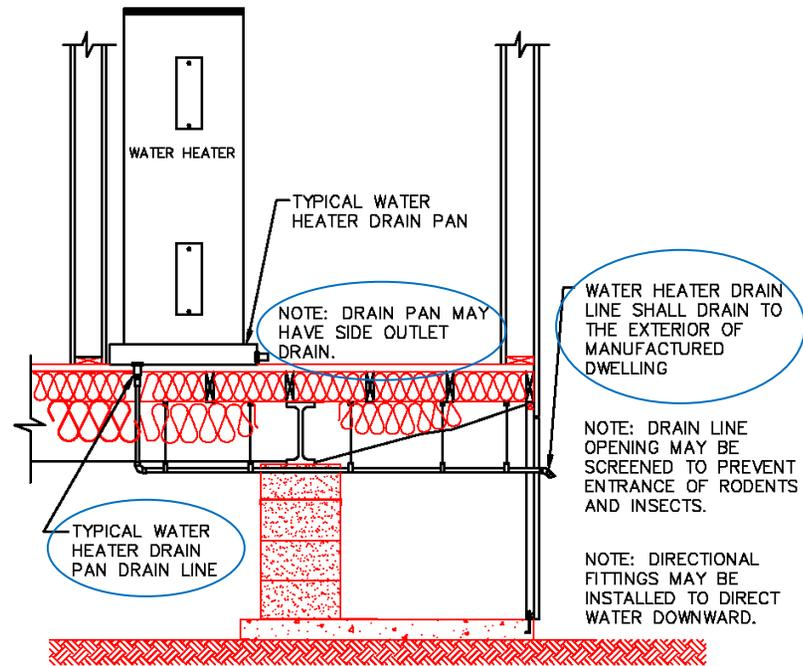

Figure 9-6.3 Typical Water Heater Drain Pan Drain Line
- If required to have a drain pan installed, the drain pan drain line must be routed in a manner to drain to the exterior of the manufactured dwelling. See Figure 9-6.3.